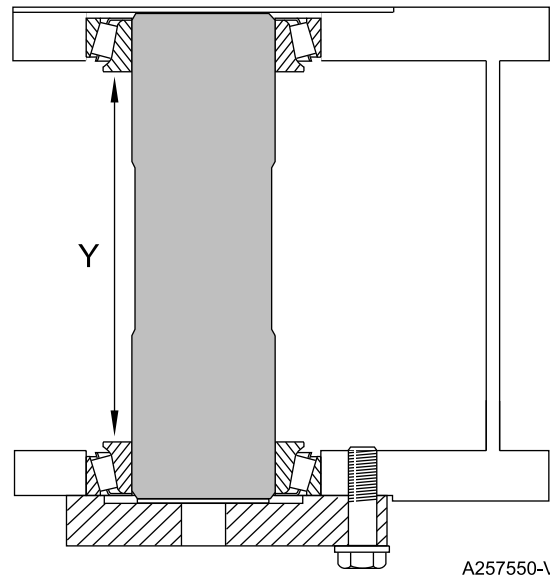

Fig 16.
- 12 Put the top bearing-cone on the pivot-pin **1** to the dimension **Y** (178 mm) as shown. ⇒ Fig 16. (□ B-9).